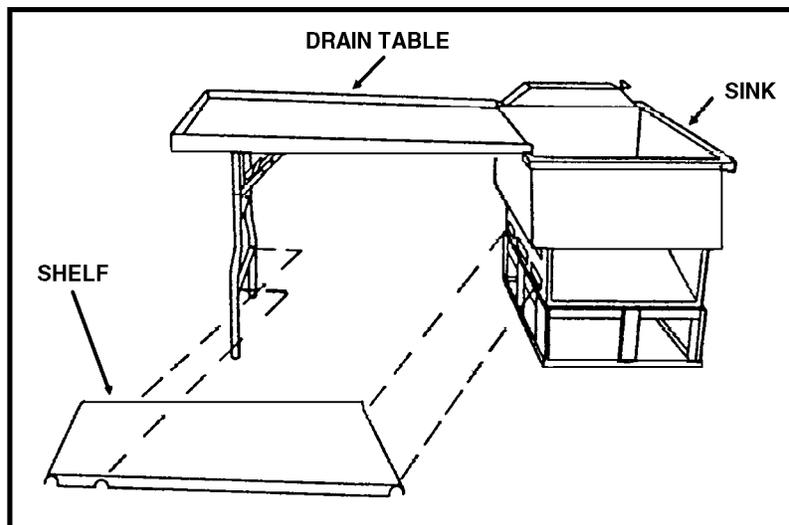

Figure 2-28. Drain table.
- c. Assemble the drain tables. (See Figure 2-28.)